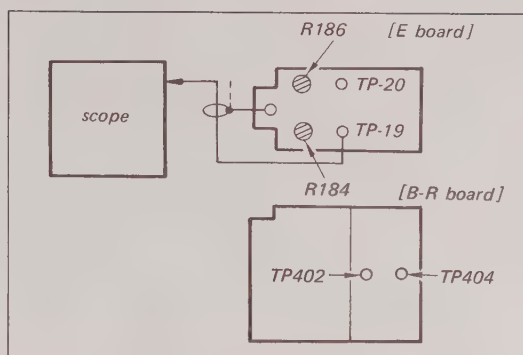

Fig. 8-32. Y record level adjustment test setup
3. Connect the scope probe to TP-19 (TP-20) on the V board. See Fig. 8-32.